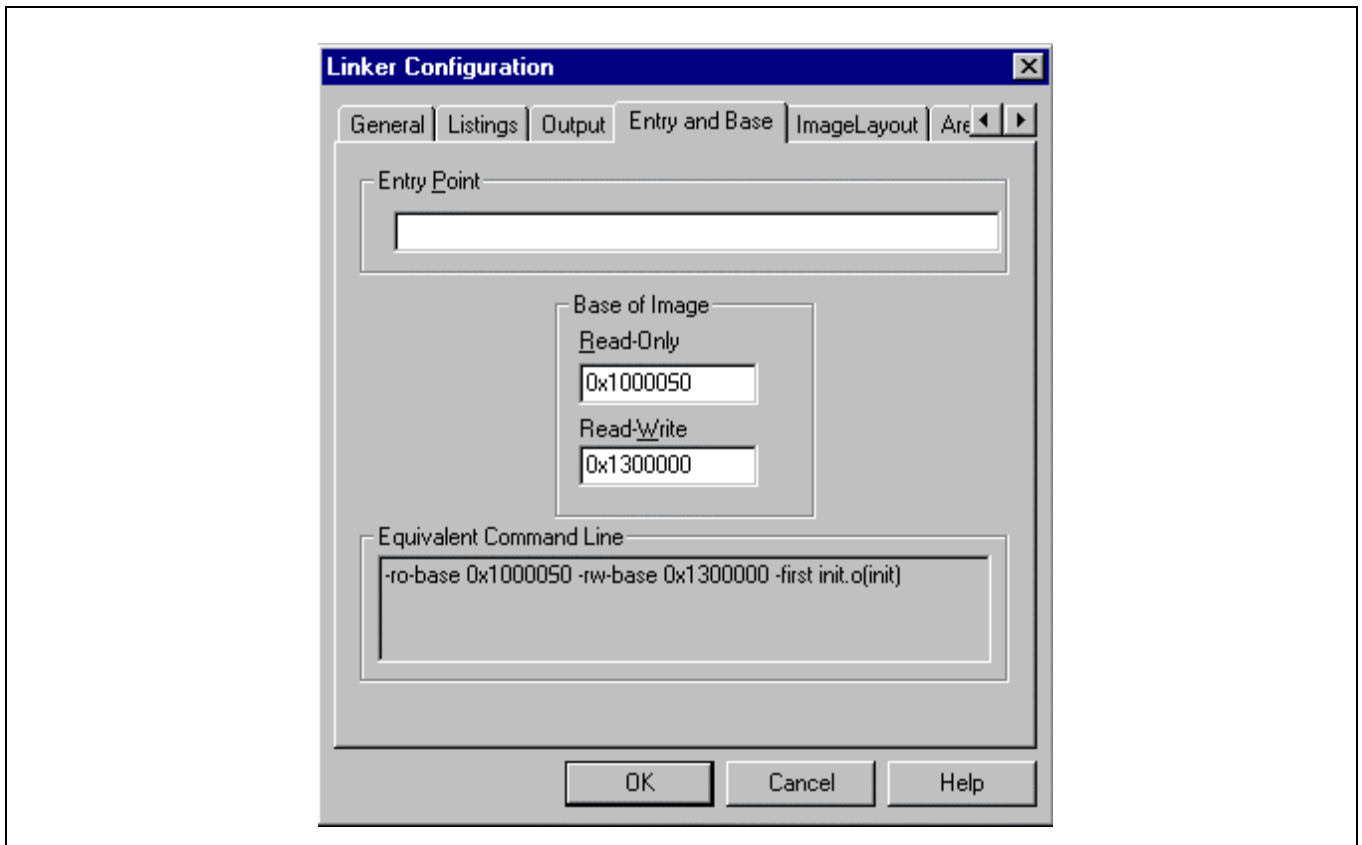

Figure 2-13. Linker Configuration: Entry and Base Page
4. Modify Entry and Base page on Linker Configuration dialog box (Figure 2-13).